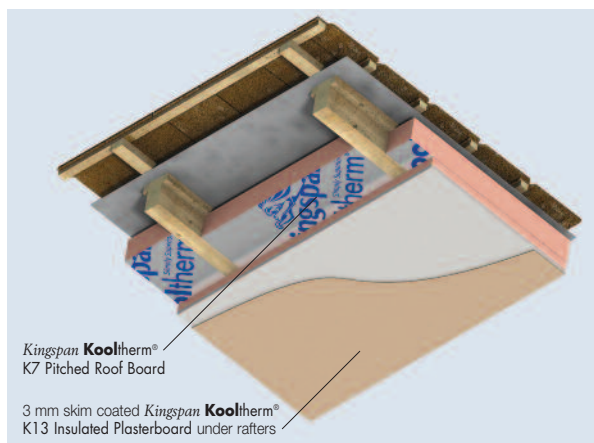

Figure 6 – Mechanically fixed to timber rafters with *Kingspan Kooltherm*® K7 Pitched Roof Board between rafters
- Sheets of *Kingspan Kooltherm*® K13 Insulated Plasterboard may be used to line ceilings (see Figure 6).